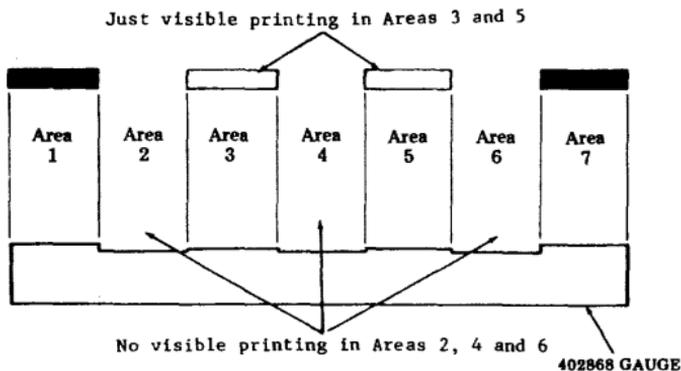

FIG.3
- Insert 402868 gauge (Fig.3) into carrier track and hold firmly against the backup bar at one side of the print station.
- With printer power turned on, place the printer test switch in "on" position and pass a steel object (screwdriver) over the flag sensor to initiate hammer firing. While hammers are firing, areas 2, 4, and 6 should not be visible, areas 3 and 5 should be just visible, and areas 1 and 7 should be the darkest and approximately equal (Fig.3). This requirement must be met with the 402868 gauge at both sides of the print station.
- When the proper printout is achieved (Fig.3) on the left and right side, place the "test" switch in the off position.